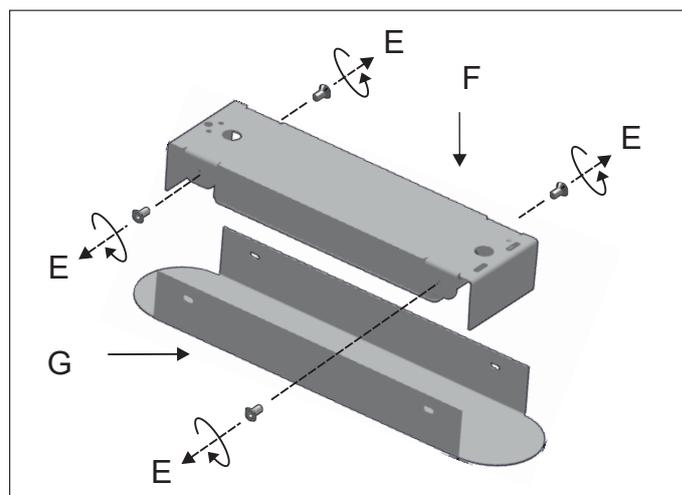

Figure 4A
Unscrew the side screws (E) to release the mounting bracket (F) from the canopy cover (G). Figure 4A.